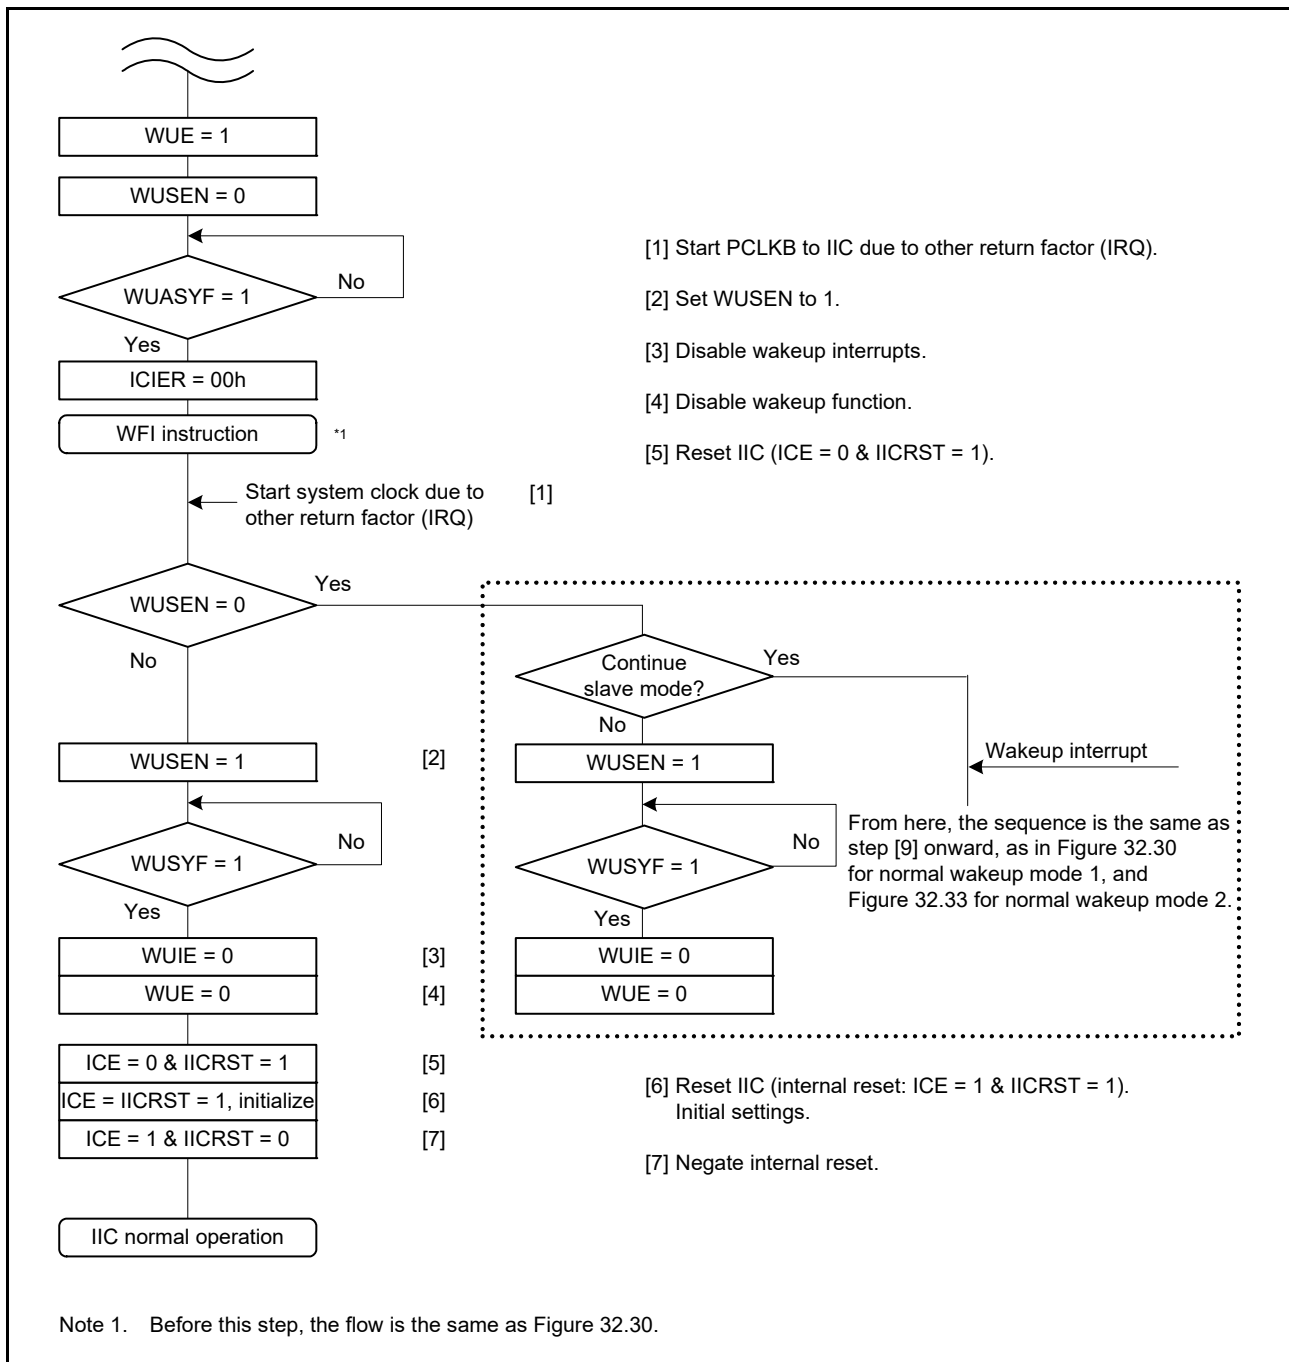

Figure 29.31 Example operation of normal wakeup modes 1 and 2 when wakeup is triggered by an interrupt other than IIC wakeup interrupt, for example, the IRQn
8. If the transition from Software Standby mode is triggered by an interrupt other than a wakeup interrupt, for example, the IRQn, the WUF flag is not set to 1. Follow the procedures shown in Figure 29.31 and Figure 29.36.
If the transition from Software Standby mode is triggered by an interrupt other than a wakeup interrupt, for example the IRQn, the WUF flag is not set to 1. Figure 29.31 shows an operation example.
If the transition from Software Standby mode is triggered by an interrupt other than a wakeup interrupt, such as the IRQn for example, the WUF flag is not set to 1. Figure 29.31 shows an operation example.